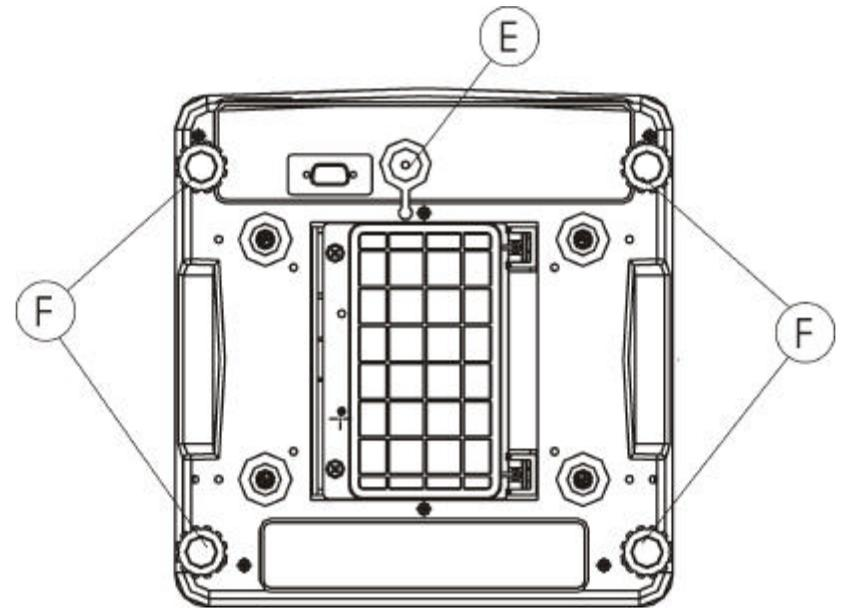

FIG 2
7. Always apply the rubber cap (**FIG 2 E**) when not in charging.
- c. After battery is fully recharged, remove adaptor from scale. Apply the rubber cap (**FIG 2 E**) to seal the DC input jack of scale.